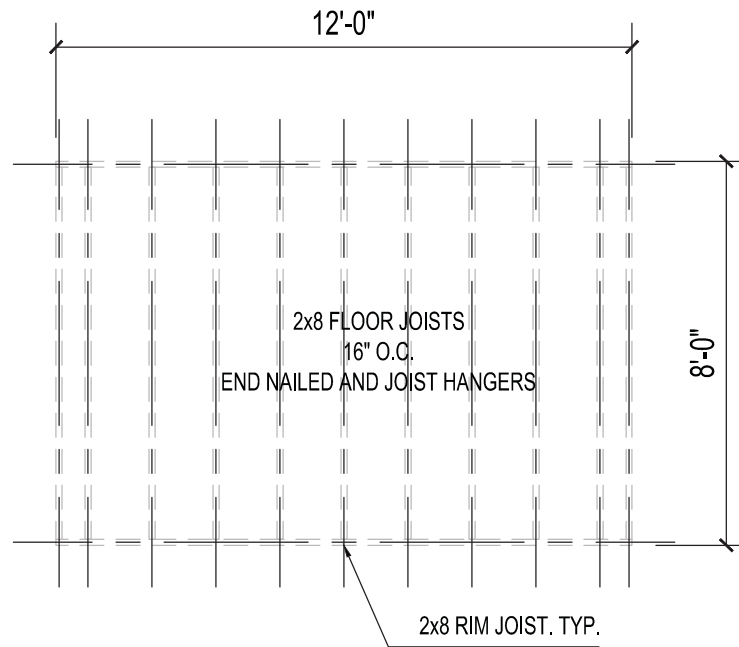

fig.1 - Floor Framing Plan
- a) Cut rim joists from pressure treated 2x8 wood boards. Cut long member to full length of floor (see fig.1) and cut short member to 3" shorter than full depth of floor to account for the thickness of the long members.
See fig.1 for dimensions